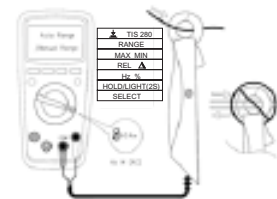

Figure 11
- *. 60A AC and DC current clamp measurement (See Figure 11). Connect as shown in the figure with the attached current clamp.